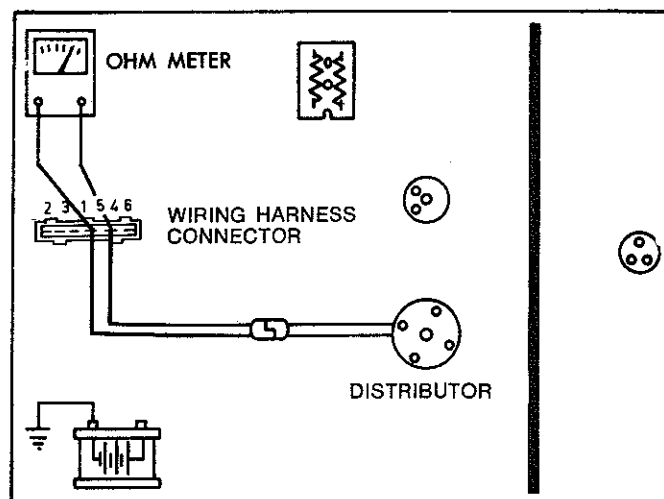

Fig. 10—Checking resistance between cavities 4 and 5
(8) Turn ignition switch 'off'.
(9) Connect an ohmmeter to **wiring harness connector cavity No. 4 and No. 5** (Fig. 10). The ohmmeter resistance reading should be as specified.